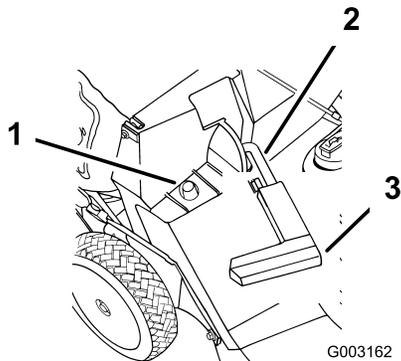

Figure 20
2. Ensure that the discharge door handle is fully forward and that the pin is engaged in the catch (Figure 20).
3. Slide the hole in the bag frame onto the retaining post on the discharge tunnel (Figure 20).
2. Raise the discharge door handle and move it forward to engage the pin with the catch (Figure 20).